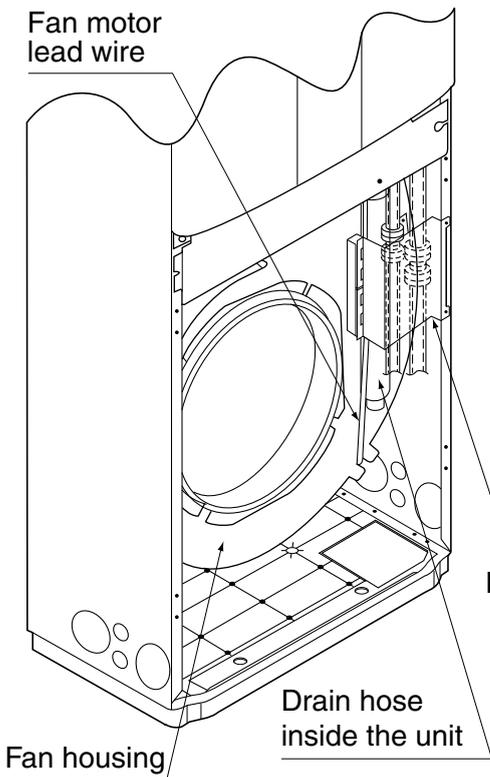

Fig. 12
- Detach the pipe retainer. (Refer to Fig. 12)
- After the refrigerant piping and electrical wiring work is completed, hold the refrigerant piping, the indoor unit drain hose, the wiring connecting the indoor and outdoor units and the earth wire with the piping retainer plate (**Refer to Fig. 12**). During this work the refrigerant piping entering into the indoor unit may come in contact with the suction grille. Therefore, make sure not to extend the refrigerant piping from the piping retainer plate.